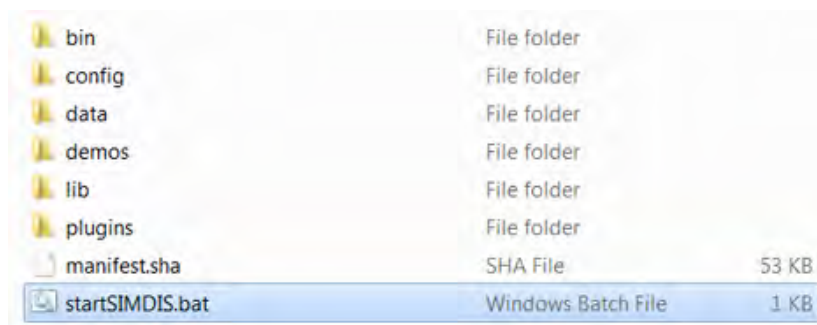

Figure 3.1: Core Install Directory
- With either the **Core** or **Full Install**, you can start SIMDIS by running the **startSIMDIS.bat** in the top level of the SIMDIS directory, see Figure 3.1.